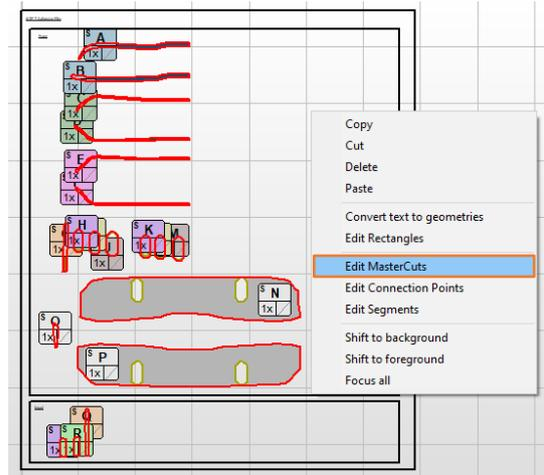

Figure 271
- 66. Now after we set the MasterCut IDs and added the correct colors we can proceed with assigning the right steps to our MasterCuts. Therefore first select all MasterCuts from the Adhesive Material. They are assigned to step 7 now. Right-click somewhere in the Drawing Area and further select **[Edit MasterCuts]** (Figure 271).